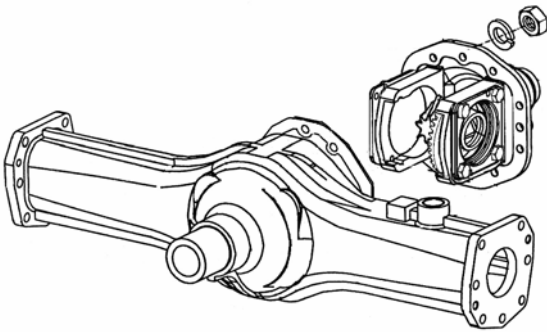

Fig.6-14
- 5) Remove the Bevel case from the front axle after pulling out the right and left drive shafts. (Fig.6-14)